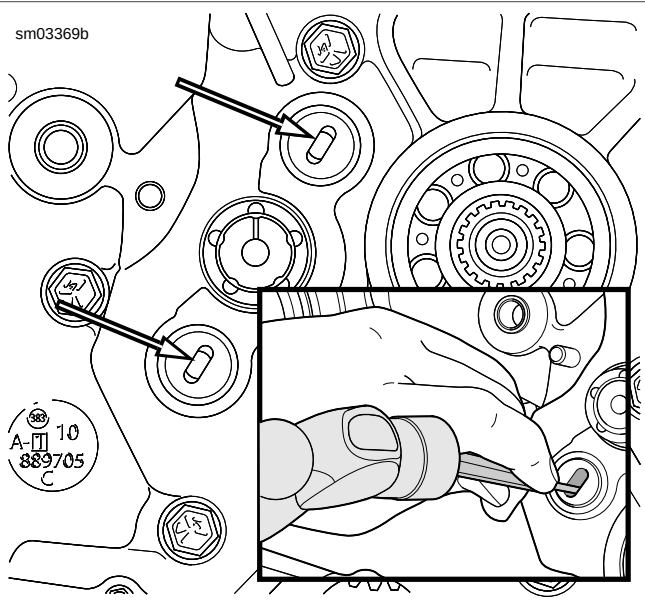

Figure 5-56. Slots For Removing Shifter Fork Shafts
1. See Figure 5-56. Remove shifter fork shafts by inserting a small flat punch in the slots and tapping on the end of each shaft until it falls free.